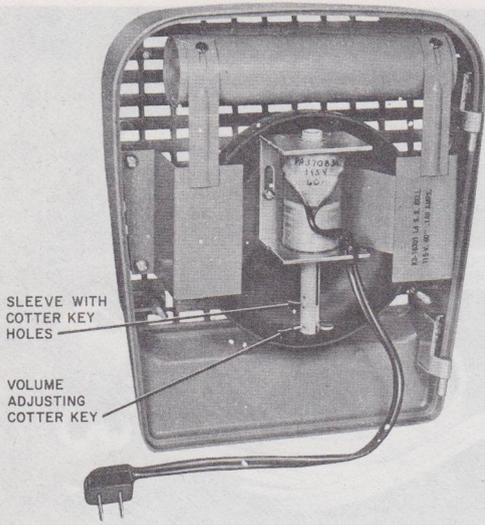

Fig. 9—KS-16301, List 4 Bell
5.02 The KS-16301, List 4 (single-stroke bell) uses a cotter key volume adjustment. The signal is shipped with the key inserted through the lowest of the three holes in the sleeve that contains the plunger for maximum volume. To decrease volume, move cotter key to intermediate or top hole in the sleeve (Fig. 9).